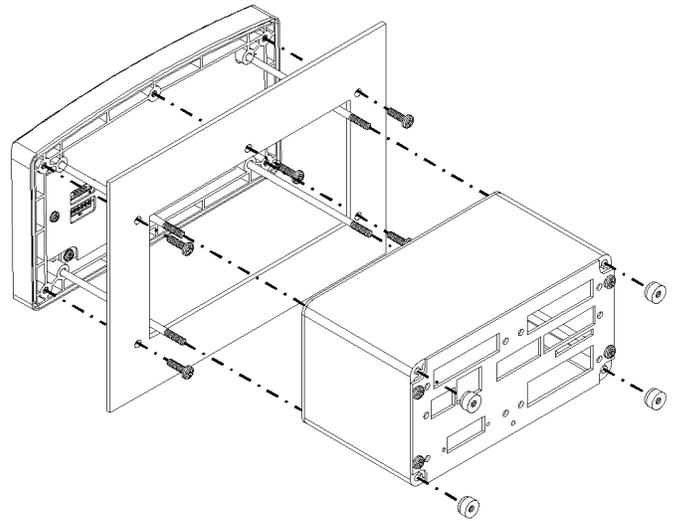

FIG. 4 RETROFIT PANEL MOUNT INSTALL FOR HI 2151/30 & HI 2110
- Step 4. Thread the four (4) threaded rods through the appropriate holes in the panel and into the bezel. For the retrofit you don't have to place the rods through the holes. (See Fig. 4)